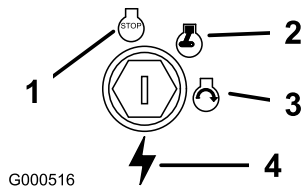

Figure 10
- Turn the ignition key to Off (Figure 10).